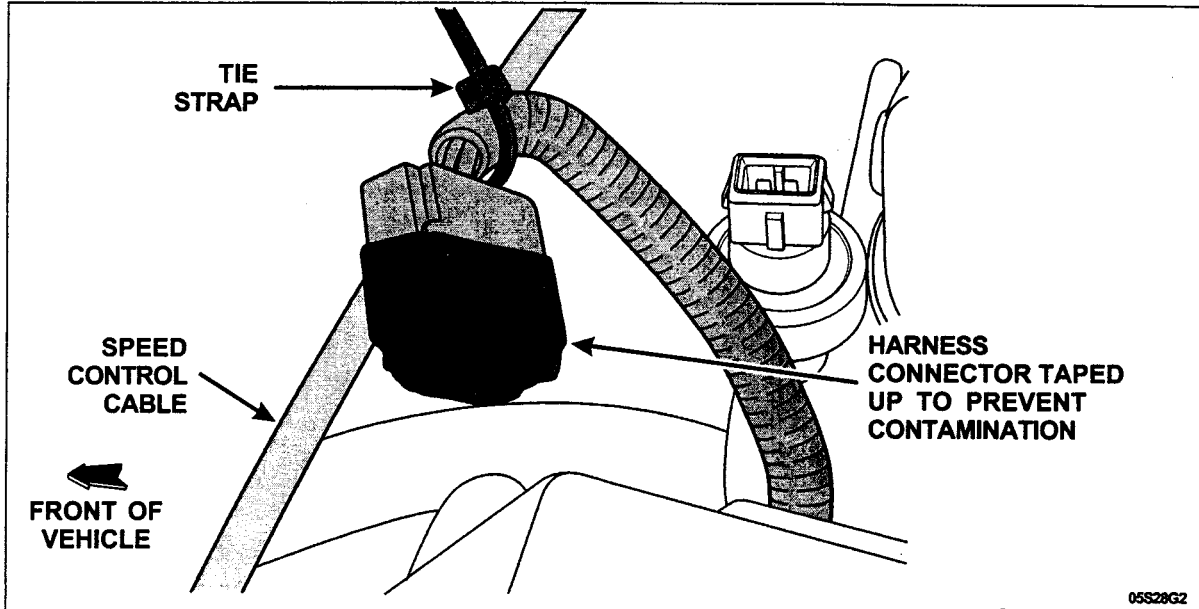

FIGURE 7
2. Secure the connector by tie strapping it to the speed control cable or another available location to prevent rattle or contact with other components. Keep the harness away from the power distribution box to avoid chafing the harness. See Figure 7.